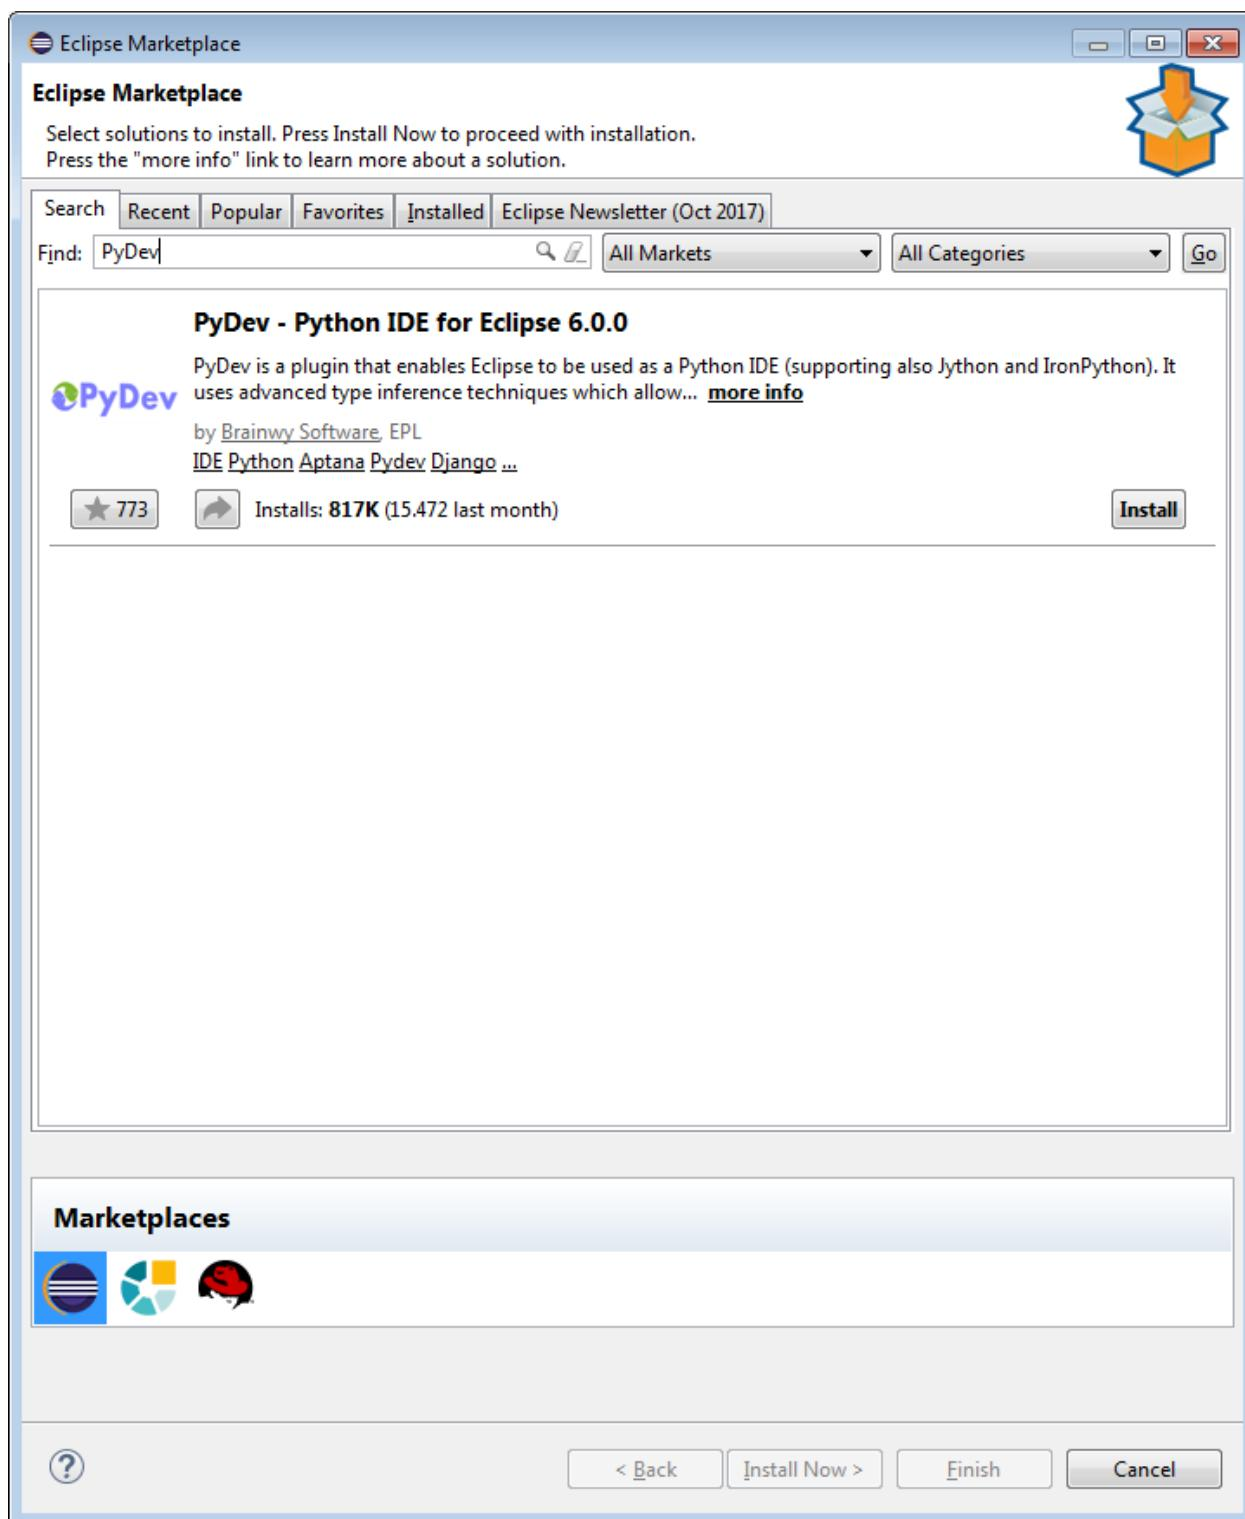

Fig. 11.2: PyDev Eclipse plugin
* Search the "PyDev" plugin, as shown in Fig. 11.2.